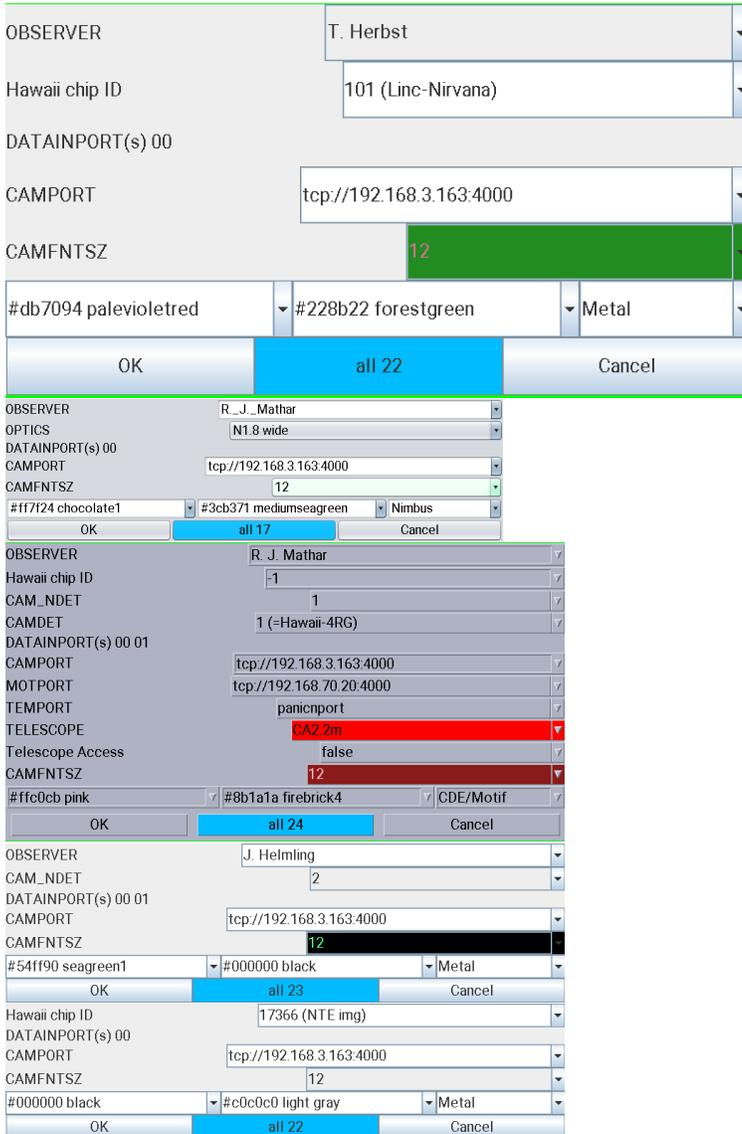
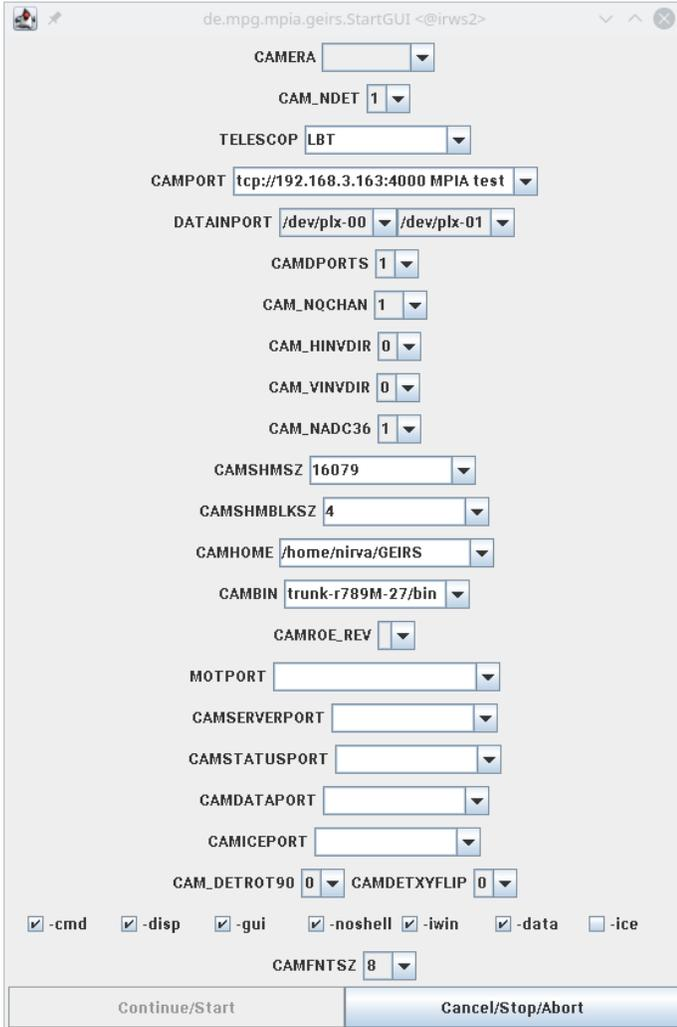

Figure 10: Startup screen to start GEIRS. Which of these layouts appears depends on the instrument.
Figure 11: Engineering startup with `geirs_start`.
TELESCOPE The label of the observatory, which is used to set the geographic coordinates and to convert from equatorial to topocentric coordinates. Only a few fixed strings are supported: LBT, CA3.5m, CA2.2m, NOT, Lab, and some obsolete others. Using `geirs_start_gen` makes sense for the CAHA startup for PANIC,because this offers both the 3.5 and the 2.2 m telescope for interactive selection in the startup screen (Figure 10).
2. modifications of the environment variables by the engineering GUI in Figure 11;
4. modifications of the availability of subsystems (simulation) defined in the GUI in Figure 10;
If no command line option is used, four of them are implicitly activated. If the `-iwin` option was present (explicitly or implicitly), it commences with the start-up screen of Figure 10. The controls and/or the image GUI will be opened depending on the presence of the options `-gui` and/or `-disp`. The command server is started depending on the presence of the option `-cmd`. The `-gui` option works only if the command server is either started here or already running. The data server is started depending on the presence of the option `-data`. The real-time display requires that the data server is run.
Some parameters may be edited in Figure 10 at this time:
The GUI in Figure 10 allows essentially to move subsystems into simulation mode. If you are not satisfied with some of the selectable parameters, you need to start from scratch, either with Figure 11 or by explicitly setting the shell variables before using the start-commands of Section 4.1.
The GUI in Figure 10 uses a countdown of 20 seconds, where the remaining time is indicated in the label of the `all` button. If no button is pressed to change the configuration within that time interval, it will continue to start (or fail to start) GEIRS with the currently selected set of parameters.³¹
After you press `all` in Figure 10, the subsystems (most noticeably the ROE) are initialized and the GEIRS window of Figure 12 will appear. At that time all (recent) instrument patterns send commands to the ROE which switch most of the ROE’s LED’s off. The LED’s of the network card of the ROE cannot be manipulated by these software means (and must be taped to shield their light).
If some subsystems of GEIRS, like the ROE, the Motors or the Telescope are set to the simulation state in Figure 10, some parts of the GUIs described in this manual display yellow backgrounds in menus to provide a visual warning that the corresponding section of the action or information is in some state of software emulation/simulation.
which pops up similar to Figure 11. This allows *experienced* users to edit many parameters on a finer level without editing the `geirs_start_gen` script, but at a higher risk of starting GEIRS with modes that are not supported.
The program scans (pings) a list of fixed ROE IP addresses and puts those that seem to be online into the selector for the `CAMPORT`. It puts subdirectories of `CAMHOME` that look like compiled GEIRS versions into the `CAMBIN` selector. If the `Continue/Start` button is pressed, the program sets some of the environment variables mentioned in Section 3; labels in the GUI and environment variables correspond to each other. Then it calls the shell script `scripts/geirs_start_gen` with the options set in the third but last line of Figure 11. See Section 5.5 for the meaning of the `geirs_start_gen` options. The principal rationale for having this GUI is that one can